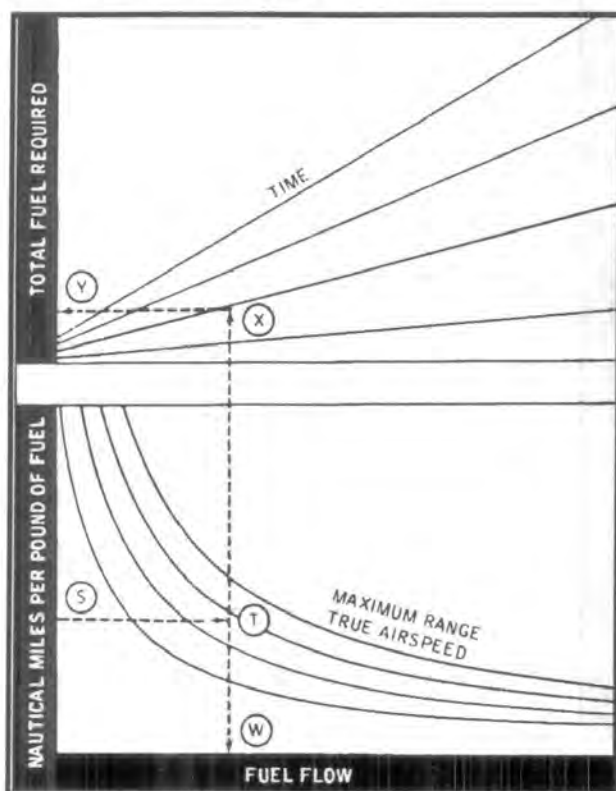

Figure 9–39 Sample Maximum Range Cruise –Fuel
9.46 Nautical miles per pound of fuel charts (Figure 9–58 and Figure 9–59, sheets 1 through 6) present cruise data throughout the gross weight, airspeed, and drag index range of the aircraft. These data are presented for use when cruise data are required for speed conditions other